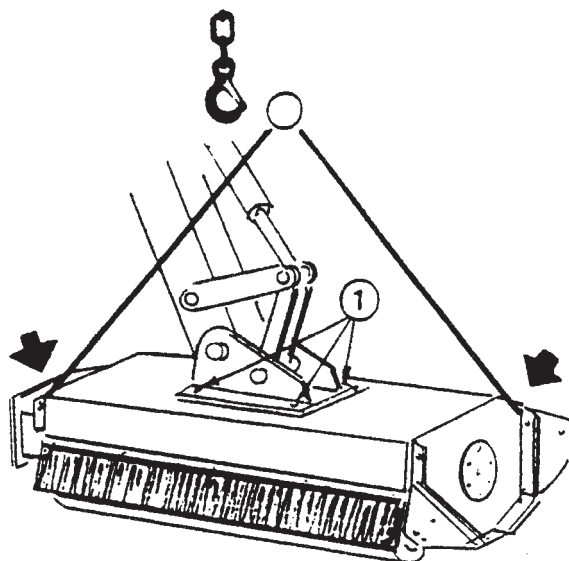

Fig. 22
- Lower the arm so that the tie plate corresponds to the flail head (FIG. 22).
- Secure the flail head with the four screws (1).